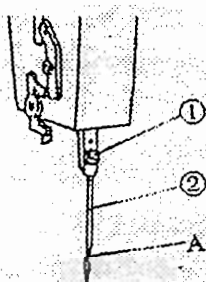
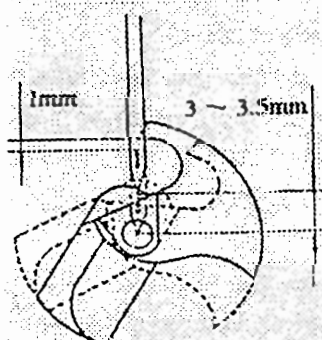

图 6 Fig.6
图 7 Fig.7
First set the needle properly, as shown in Fig.6, loosen screw (1) and insert needle (2) up into needle bar as far as it will go with its short groove A of needle facing away from the operator. Securely tighten needle clamping screw (1). Turn the machine pulley until the needle bar moves down to its lowest position. When the needle bar is in this position, needle point should be at the centre of the looper shaft, as shown in Fig.7. Turn the machine pulley to raise the needle bar about 3-3.5mm from the lowest position, point of looper should reach the centre line of needle. The point of the looper should be about 1mm above the top of the needle eye.
首先正确装好机针，见图 6。旋松螺钉(1)，将机针(2)插入针夹孔直到孔底，机针的短槽 A 背向操作者，然后旋紧螺钉(1)。此时将针杆运动至最低位置时，针尖应对准勾针轴中心。机针和勾针的相对位置见图 7，针尖对准勾针轴的中心，机针从最下点上升 3~3.5 毫米，勾针的尖头刚好到达机针中心，而勾针尖位于针上边距离为 1 毫米。